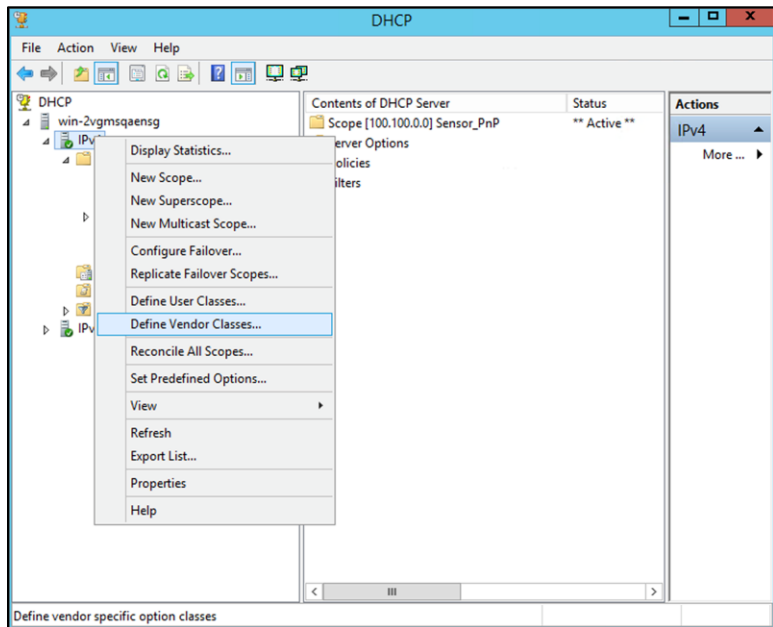

Figure 32.
1. Open your Windows DHCP server, right-click on **IPv4**, then click **Define Vendor Classes** (**Figure 32**).